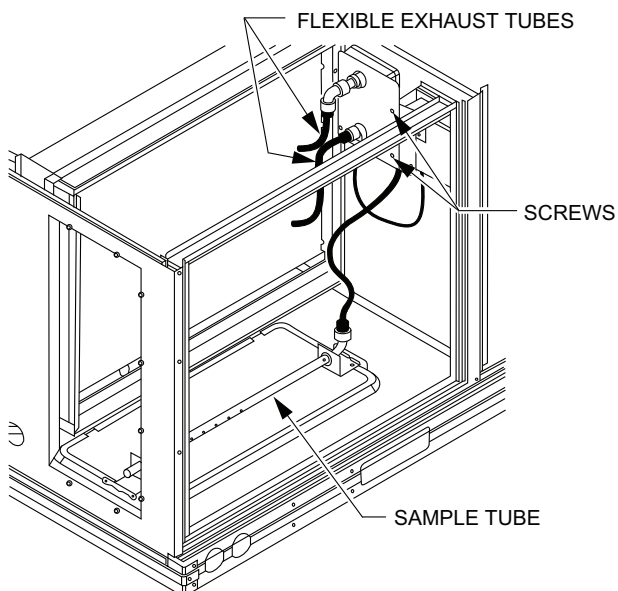

Fig. 42 — Return Air Smoke Detector Shipping Position
1. Unscrew the two screws holding the return air sensor detector plate. See Fig. 42. Save the screws.